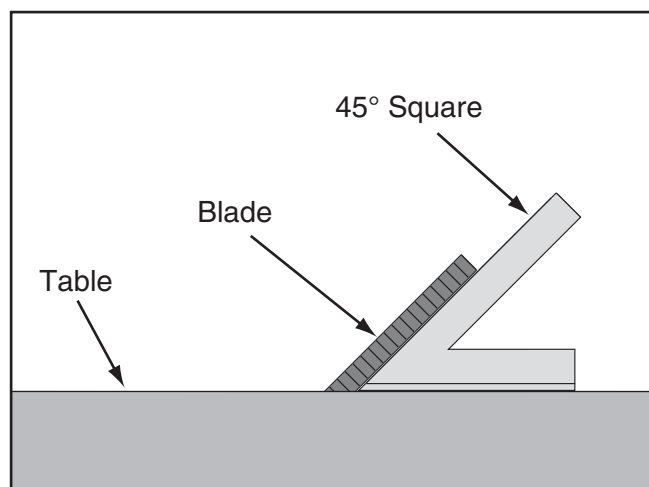

Figure 112. Checking blade at 45°.
3. Place a 45° square against the table and blade so it contacts the blade evenly from bottom to top, as shown in **Figure 112**. Make sure a blade tooth does not obstruct the placement of the square.